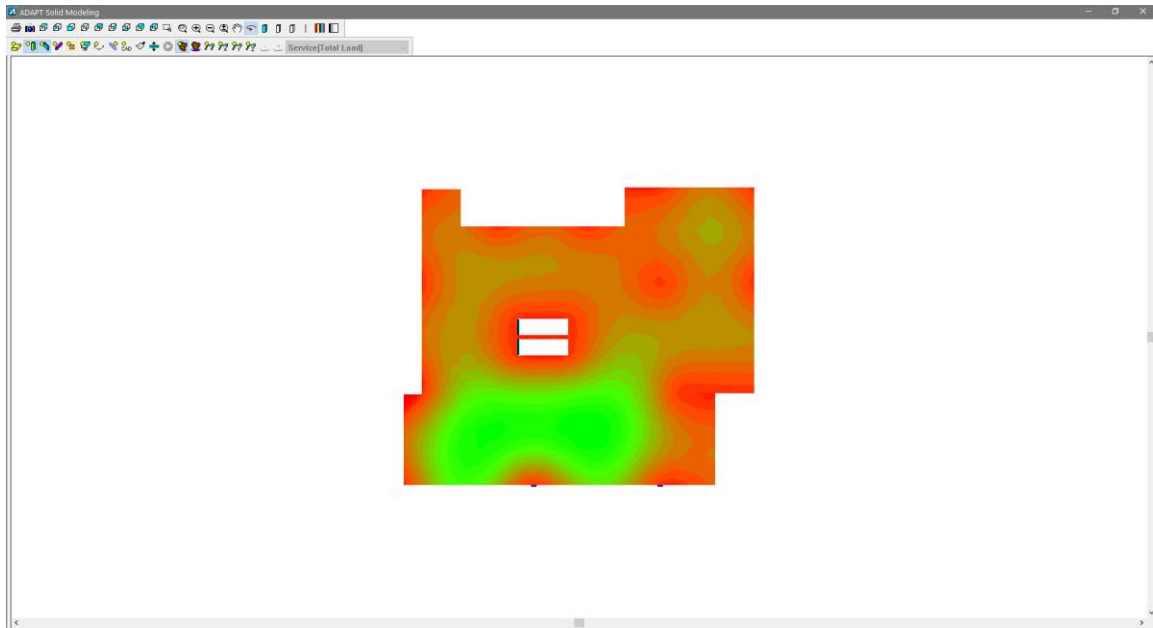

Figure 3-9
- Click on the *View Model*  icon on the **Bottom Quick Access Toolbar** to bring up the *ADAPT Solid Modeling* window as shown in **FIGURE 3-9**.